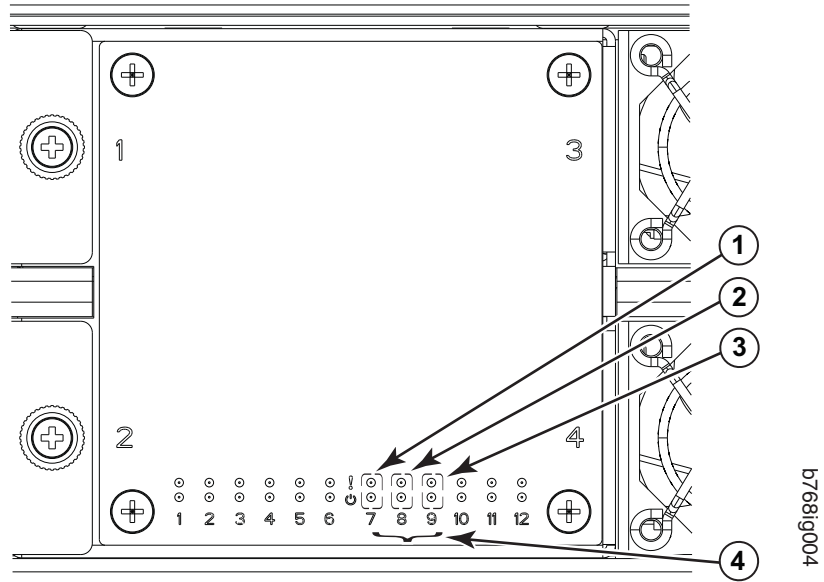

Figure 30. LEDs on the WWN card and bezel
2. Check the LED indicators on the WWN bezel and verify that they reflect the actual status of the components. The WWN bezel covers the WWN cards and allows the LEDs to shine through (see Figure 30 on page 79). The LEDs on the WWN bezel provide a consolidated view of the port, CP, and CR blade status (see Table 13).